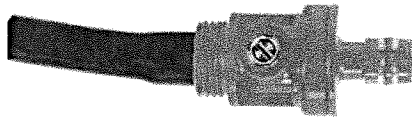

Figure 24. All-in-One Adjustable Tube Holder
For the lower flow rate (Chloropicrin samples), the flow rate on the pump is still set to 1.5 L/min and the All-in-One Adjustable Tube Holder (Figure 24) is used to adjust the flow to 50.0 mL/min.
- 4.3.1.1 Break open the sorbent tube and attach the sorbent tube and the All-in-One Adjustable Tube Holder (Figure 24) via vinyl tubing to the SKC AirChek Connect Sample Pump inlet and turn on the pump.